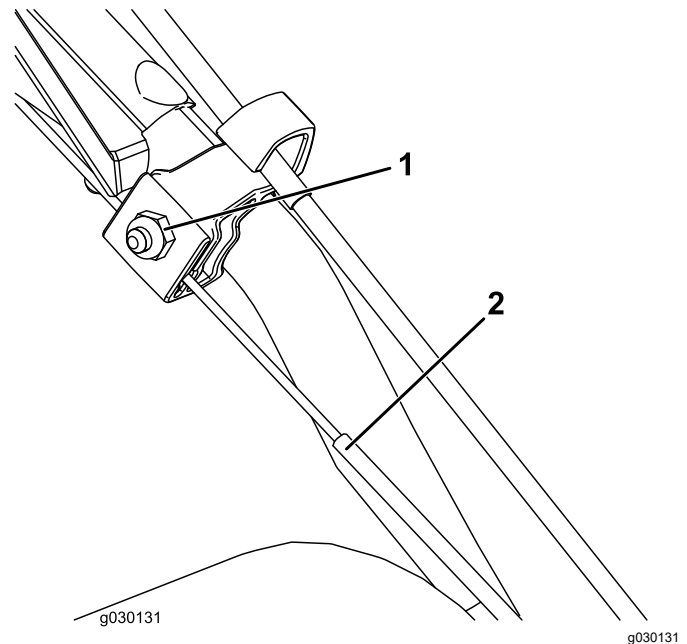

Figure 22
1. Loosen the nut on the upper cable clamp, but do not remove it (Figure 22).
2. Pull the cable down to remove most of the slack in the cable (Figure 22).
3. Tighten the nut (Figure 22).